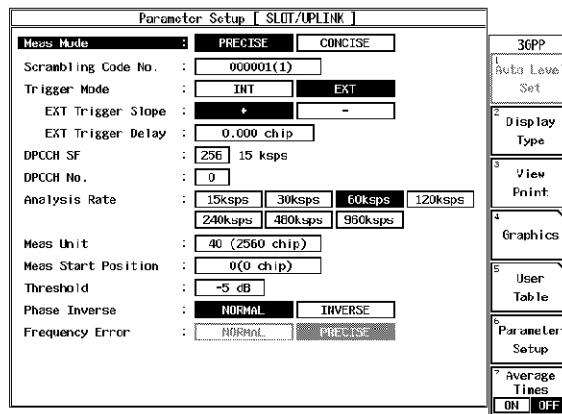

Figure 6-11 Setting of Measurement Parameters for Up Link (IQ Input)
4. On the R3267 Series, set the measurement parameters as shown in Figure 6-11.